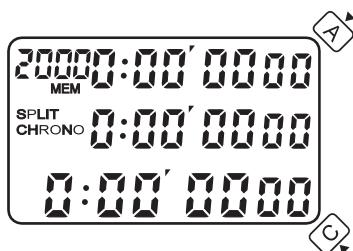

Fig. 2
- The display as shown in Fig. 2. Press A to start.
- Pressing and hold A button when the stopwatch is displaying the RACE RECORDS will clear the memories in that race record ( when the contents in this race record are cleared the display will show CLEARED and sounds a long beep, if A is released before ED appears the memories will not be cleared ) and continuously holding A button after this will clear the memories of all races (display will show ALL CLEARED and display will return to as shown in Fig.2. Memories are available for storage when they are cleared.